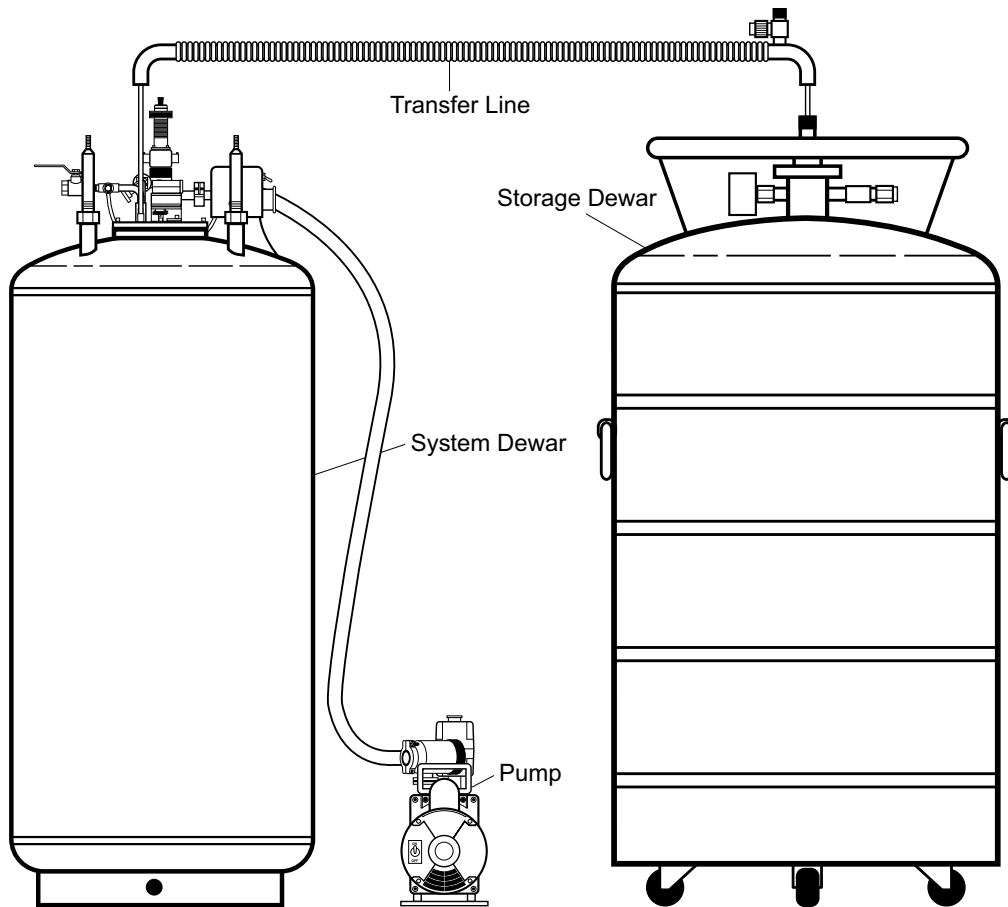

Figure 3-17 Typical Liquid Helium Transfer
2. Insert one end of transfer line into liquid helium storage dewar. See Figure 3-17. Position end of transfer line a few inches above the dewar bottom.